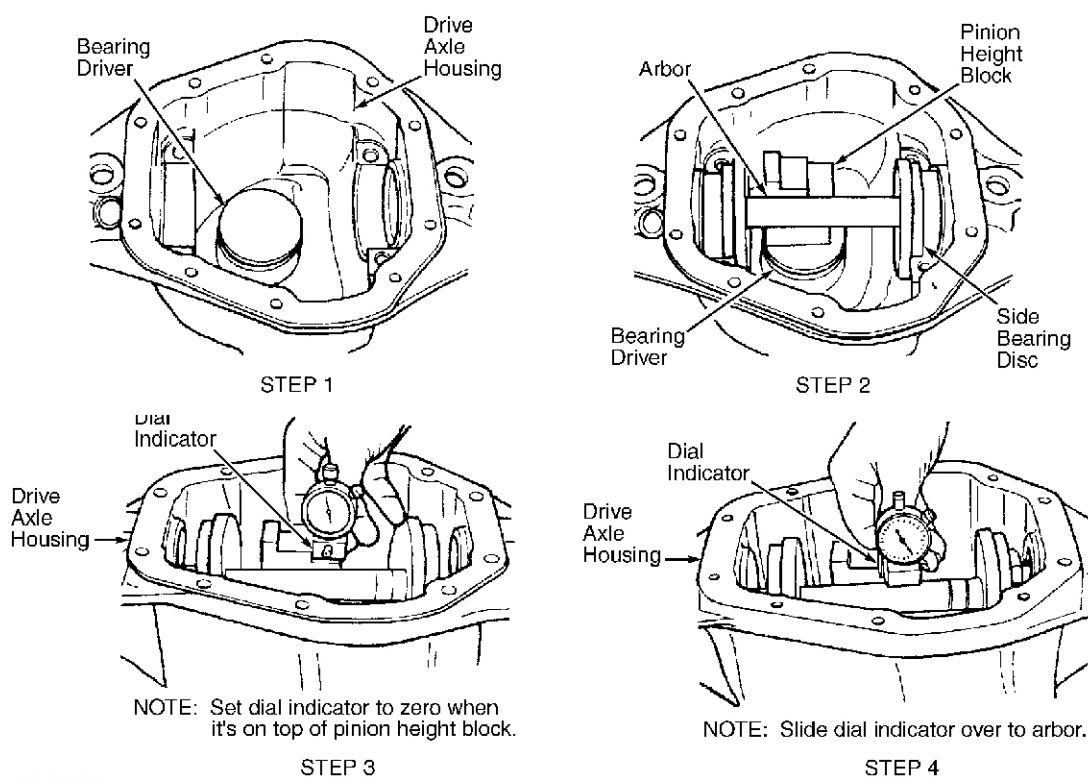

Fig. 6: Adjusting Pinion Depth
1. Clean all drive axle housing bearing race bores. Ensure drive pinion bore is free of nicks and dirt. Assemble Bearing Driver (J-41690) into drive axle housing using Adapter Cone (J-41691) and Threaded Rod (J-41692). See Fig. 6. Assemble Side Bearing Disc (J-21777-45) onto Arbor (J-39702). Install arbor and side bearing disc into drive axle housing.
2. Place Pinion Height Block (J-41689) on top of master drive pinion block and against arbor. See Fig. 6. Place Dial Indicator (J-39704) on upper step of pinion height block. While applying downward pressure on dial indicator block, set dial indicator to zero.